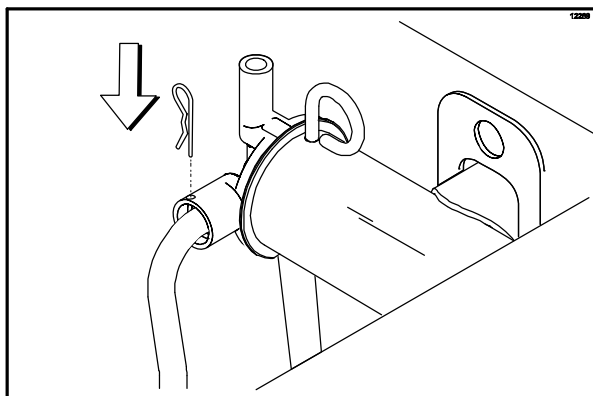

Figure 51
**Install the pump end of the mix feed tube and secure with the cotter pin.** Failure to follow this instruction could result in sanitizer spraying on the operator. (See Figure 51.)